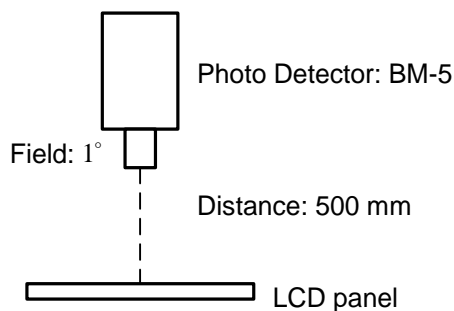

Fig. 6.1
- In the dark room around 100~400 lx, the equipment has been set for the measurements as shown in Fig 6.1.